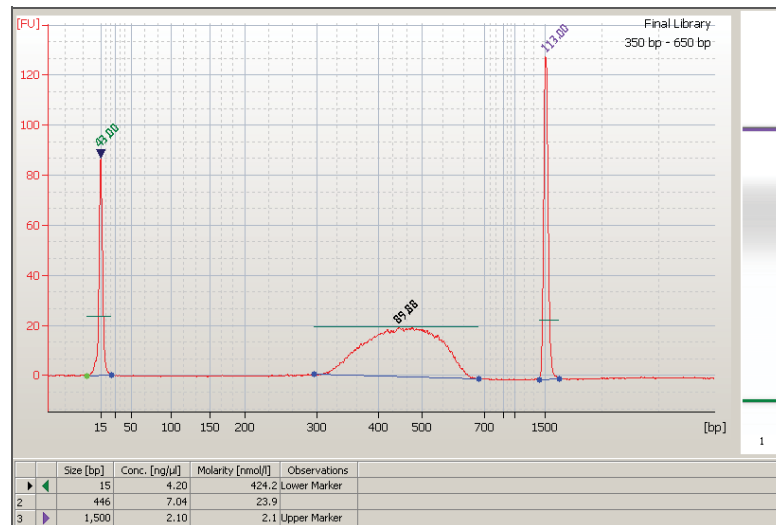

Figure 24 Agilent Profile of Purified Mate Pair Library
1. Perform library validation by running a sample on either a gel or an Agilent Bioanalyzer chip. An example of a Mate Pair library prepared using this protocol is shown in Figure 24.
Figure 24 shows an Agilent 2100 Bioanalyzer profile of a purified Mate Pair library using a 1000 LabChip. The typical concentration of a final library eluted in 15 μ l of QIAGEN EB buffer is between 10 and 40 nM.